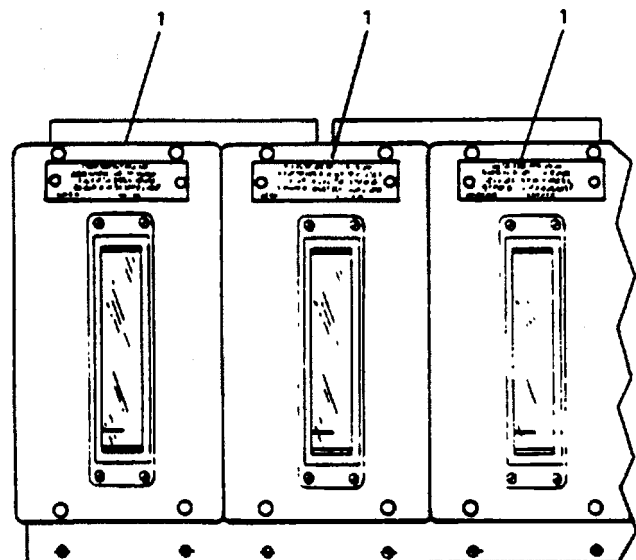

Figure 2-274. Tank Level Indicator Receiver Module.
(5) Observe tank level. On tank level indicator receiver module, observe fluid level edgeview meter (1, Figure 2-274).
(e) Monitor tank level. Observe tank level indicator receiver module (1, Figure 2-274) for appropriate tank(s).
(f) Control filling (1, Figure 2-274) operation. As each tank approaches 3/4 full, open supply valve for next tank to be filled and "throttle down" supply valve of tank almost full, until all tanks are full.